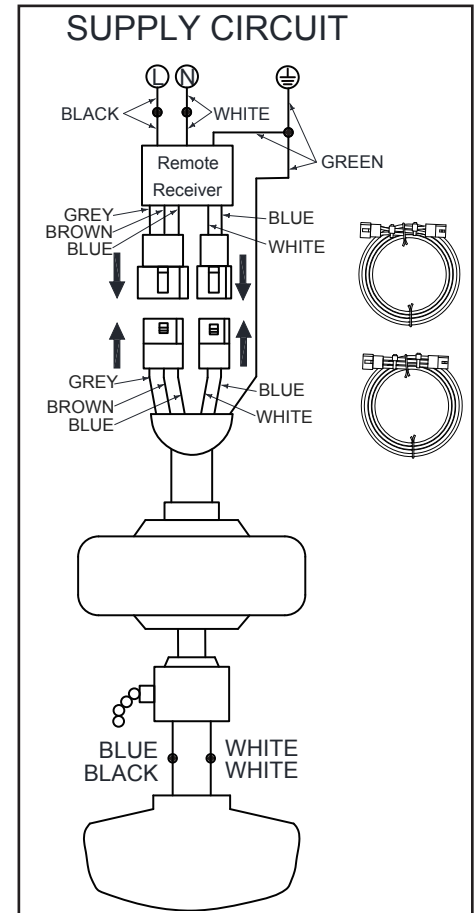

Figure 15
1. If using the 6 in. ball downrod assembly provided, wire the receiver to the fan wires by connecting the molded adaptor plug from this receiver with the molded adaptor of the fan motor assembly together. (Figure 15)